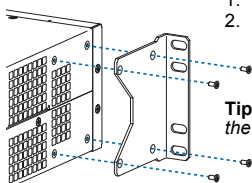

FIG. 1 Attach rack ears to sides of enclosure
1. Attach the rack ears per FIG. 1 (screws provided).